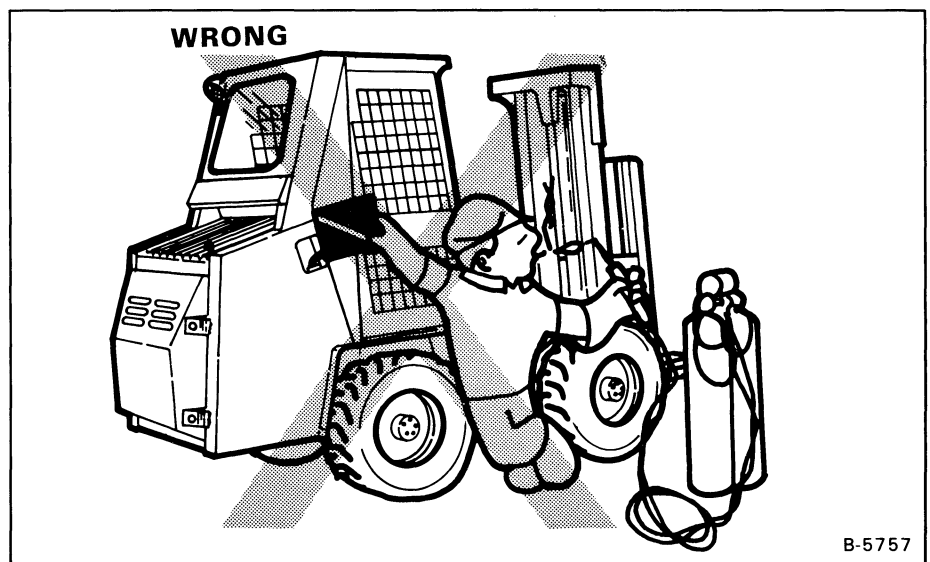

Fig. 1-12 Fuel Fill Warning
(3) Install the outer filter element. DO NOT replace the inner filter element (Fig. 1-12, Item 3) unless the red ring still shows (after the engine is running) in the condition indicator window after replacing the outer element.
Never add fuel to the Bobcat Forklift when the engine is running or is hot. NO SMOKING (Fig. 1-12).